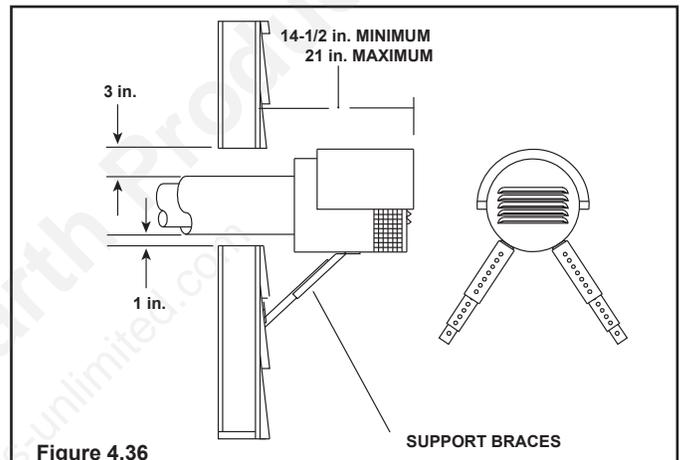

Figure 4.36
5. The minimum distance from the outside wall to the end of the top shield of the PVK-80 horizontal cap is 14-1/2 inches. The maximum distance is 21 inches. See Figure 4.36.
6. Two support braces are provided and **MUST** be used to mount the PVK-80 horizontal cap to the wall. Screw one end of each brace to the bottom of the cap housing, using the pilot holes in the cap. Extend each brace until it contacts the building wall and tighten the bolt/nut in the center of each brace. Fasten the other end of each brace to the outside wall. See Figure 4.36.